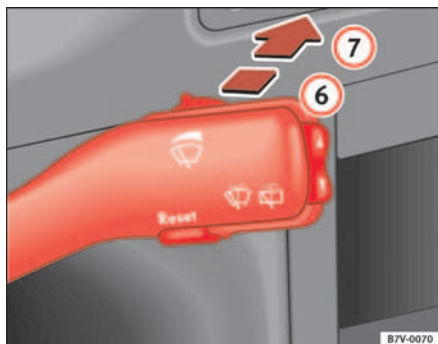

Fig. 81 Windscreen wiper and windscreen wash lever
- Press the lever forwards to position ⇒ **fig. 81** **6**. The wiper will wipe the window approximately every 6 seconds.
- Press the lever fully forwards to position ⇒ **fig. 81** **7**. The rear window washer starts to work immediately while the rear window wiper starts a little later and continues working while the lever is in this position.